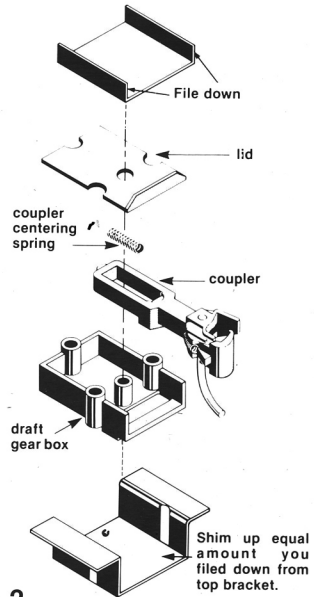

Fig. 2
4. Install coupler gear box assembly into bracket as shown in Fig. 2. Turn car over and look for obstacles which might prevent the gear box and bracket from laying flat and in position. It is important that the coupler be mounted directly on the carwidth centerline. The first step is to remove the old coupler and lay new bracket in position. Lay out the hole pattern on the bracket from the existing car underbody screws and drill clearance holes for these screws. (See Fig. 8 general instructions). A simple method of laying out the hole pattern is to coat the underside of the bracket with some dark finger nail polish. Lower the bracket into proper position on the screws and rotate slightly. This will scratch marks on the nail polish, showing the proper place to drill clearance holes. Center punch prior to drilling. If applicable, remove nuts from
5. Once new coupler gear box assembly is secured, place car on track so you can check distance from top of rail to the center line of coupler. If coupler is too low, modify bracket as follows: Remove bracket and file smaller half of bracket by the amount coupler must be raised (Fig. 2). A shim of equal thickness must be